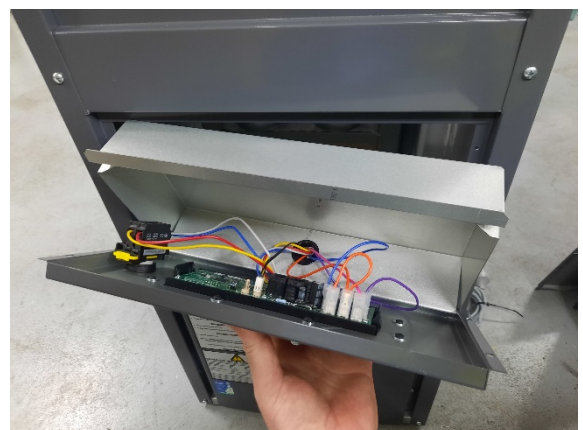

Figure 16
12. Detach the controller rear cover from the controller panel by gently squeezing the cover. Refer Figure 16.